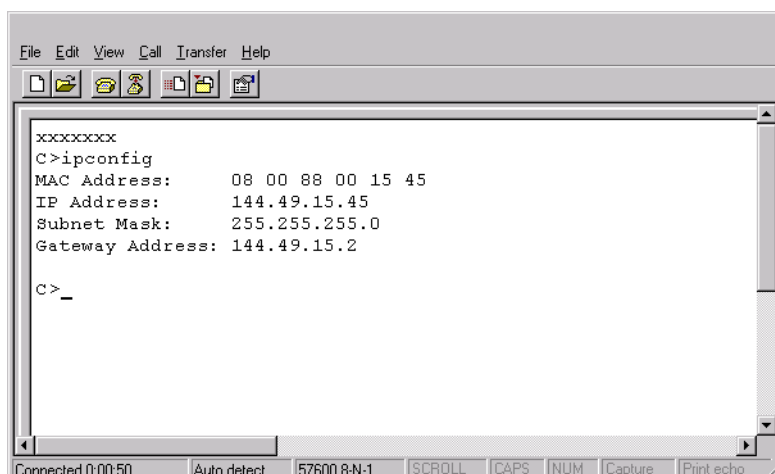

Figure 10: HyperTerminal window
8. At the `>` prompt, enter the user-level password (the default is password). The password is case sensitive. The HyperTerminal window displays with a `C>` prompt at the top of the window (Figure 10).